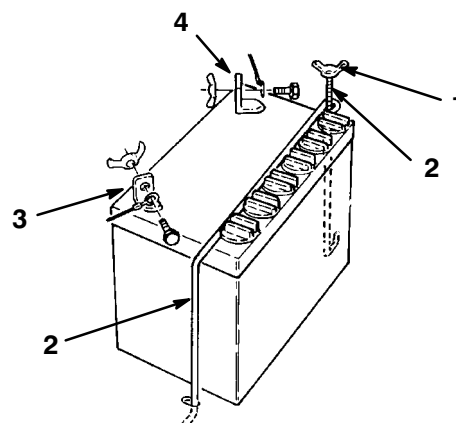

Figure 20
3. Disconnect the negative (black) ground cable from the battery post (Fig. 20).
- Slide the rubber cover up the positive (red) cable. Disconnect the positive (red) cable from the battery post (Fig. 20).
- Remove the wing nut securing the battery hold-downs to tractor chassis (Fig. 20).
- Using the bolt and wing nut, connect the positive (red) cable to the positive (+) battery post (Fig. 20). Slide the rubber cover over the battery post.
- Using the bolt and wing nut, connect the negative (black) cable to the negative (-) battery post (Fig. 20).